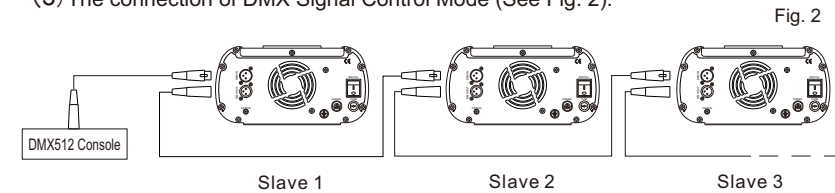

Fig. 2
- ① If you need Master/Slaves to change color synchronously, please set all of slaves into "001";
- ② If you need Master/Slaves to chase to change color, please set slaves into "006", "011" and so on(add "5" one after another).
(3) The connection of DMX Signal Control Mode (See Fig. 2):